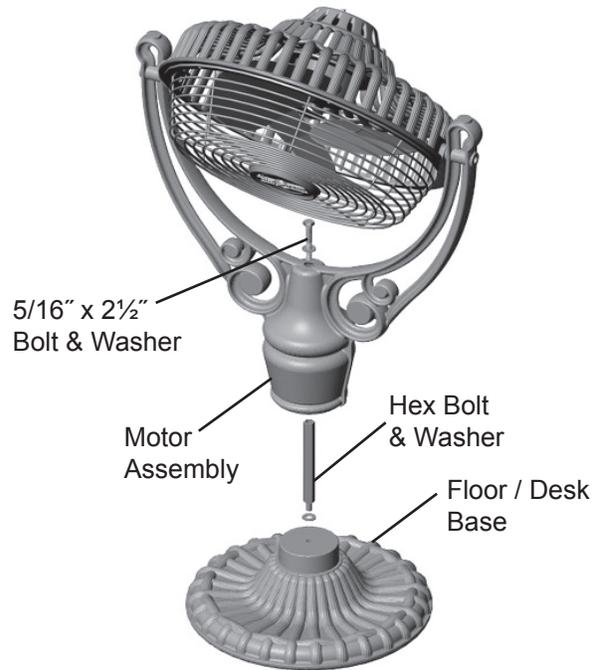

Fig. 14
3. Position the Motor Assembly onto the Floor / Desk base. (Fig.14)